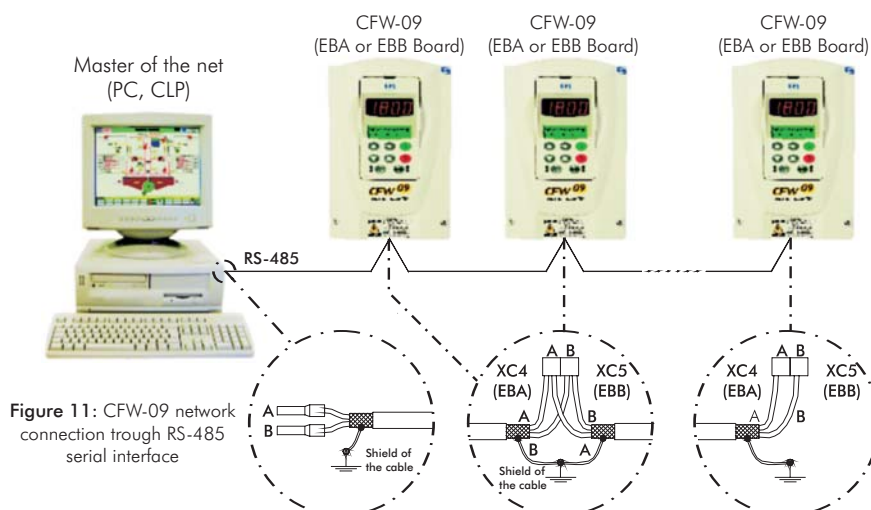

Figure 11: CFW-09 network connection through RS-485 serial interface
- 1) Line termination: include line termination (120Ω) only at the network ends. (See table 2 or 4 - fig.11);